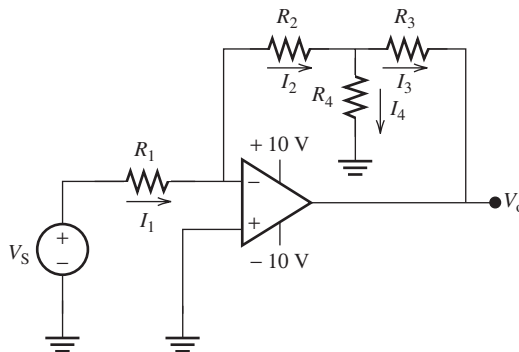

FIGURE P8.73 Advanced op amp circuit.
- 8.73** (H)* Find the formula for the voltage gain for the amplifier shown in Figure P8.73.